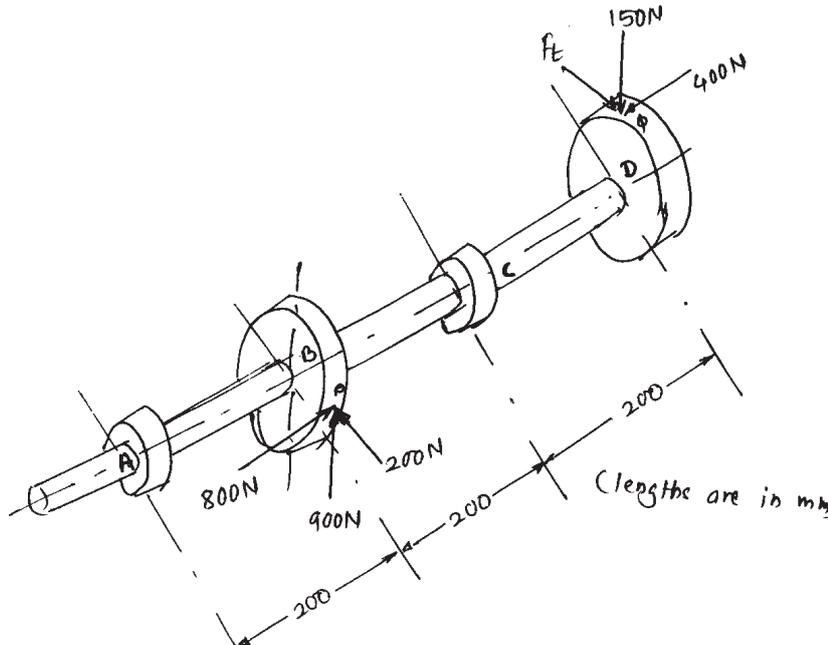

Fig. 1.
- Q1)** Fig.1 shows a shaft supported on bearings 'A' and 'C' and carrying keyed helical gears 'B' and 'D'. Pitch circle diameters of gears 'B' and 'D' are 200 mm and 300 mm while weights are 30.58 kg and 45.87 kg. respectively. Various forces act at gear quadrant points 'P' and 'Q' as shown. If the shaft is to be made up of 50C4 with $S_{ut} = 700 \text{ N/mm}^2$ and $S_{yt} = 460 \text{ N/mm}^2$. Find out its optimum diameter according to ASME code, assume $k_t = 1.5$ and $k_b = 1$.